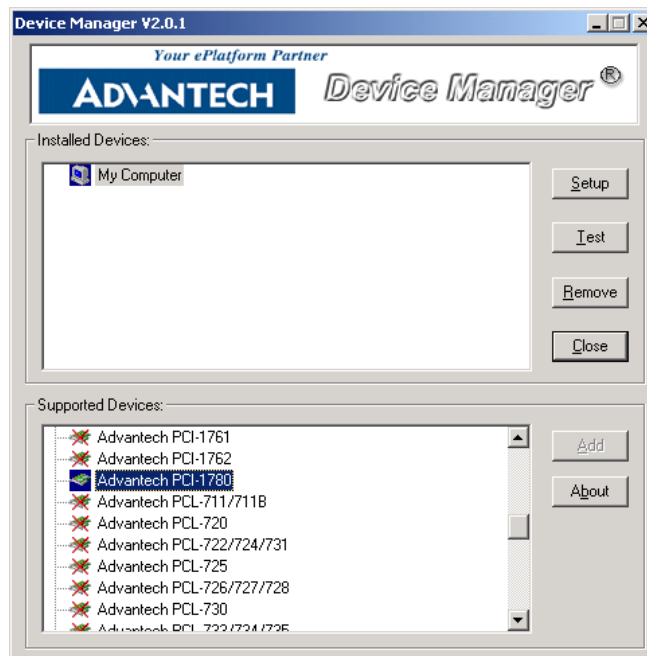

Fig. 2-4 *The Device Manager dialog box*
Step 2: You can then view the device(s) already installed on your system (if any) in the *Installed Devices* list box. Since you haven't installed any device yet, you might see a blank list such as the one below (Fig. 2-4).